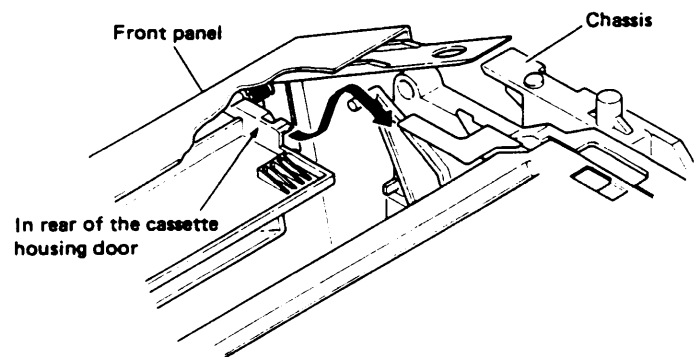

Fig. 1-1-9
4. Install the front panel as shown in Fig. 1-1-9 and re-engage the tabs. Supply power and use a spare cassette to check for normal loading and eject operations.